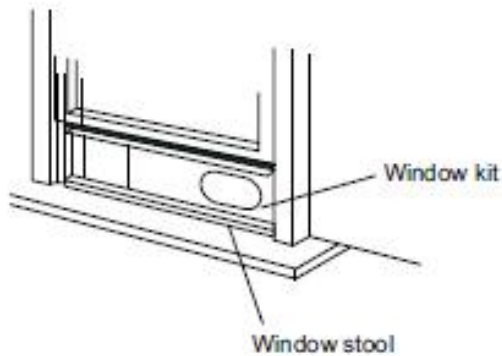

Fig. 11
- 3) Cut the foam seal (adhesive type) to the proper length and attach to the top of the window. See Fig. 11.